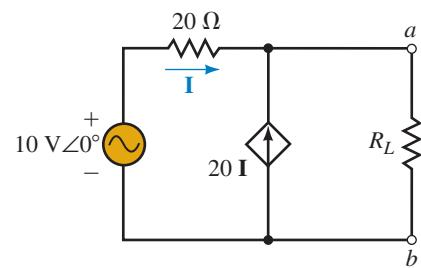

FIGURE 20-76
15. Find \mathbf{V}_L in the circuit of Figure 20-76.
39. Find the Thévenin and Norton equivalent circuits external to the load impedance of Figure 20-76.